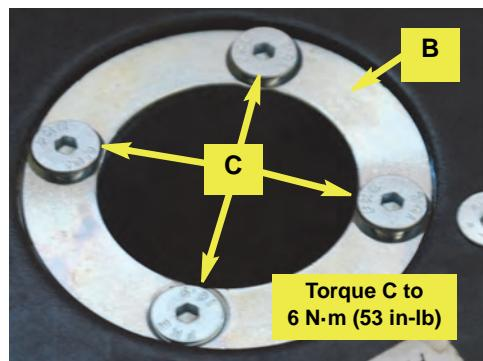

Figure 1b: Shaft adapter installed
- Using the four countersunk screws **C**, secure the shaft adapter **B** in the steering wheel. Torque the screws to **6 N·m (53 in-lb)** (Figure 1b).